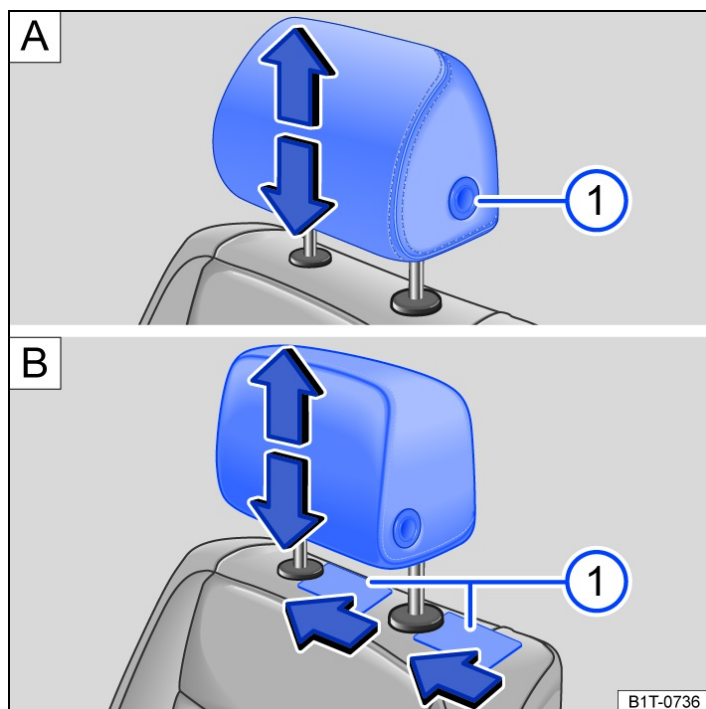

Fig. 1 Removing the front head restraints: **A** without longitudinal adjustment, **B** with longitudinal adjustment.
- Push a flat object, e.g. a plastic card, between the backrest cover and the caps on both sides → Fig. 1 ¹.